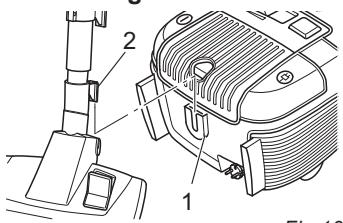

Fig. 16
- For **storage** or during work breaks, you can use the parking hook mount (Fig. 16/1) to hook the parking hook (Fig. 16/2) onto the floor nozzle (Fig. 16).